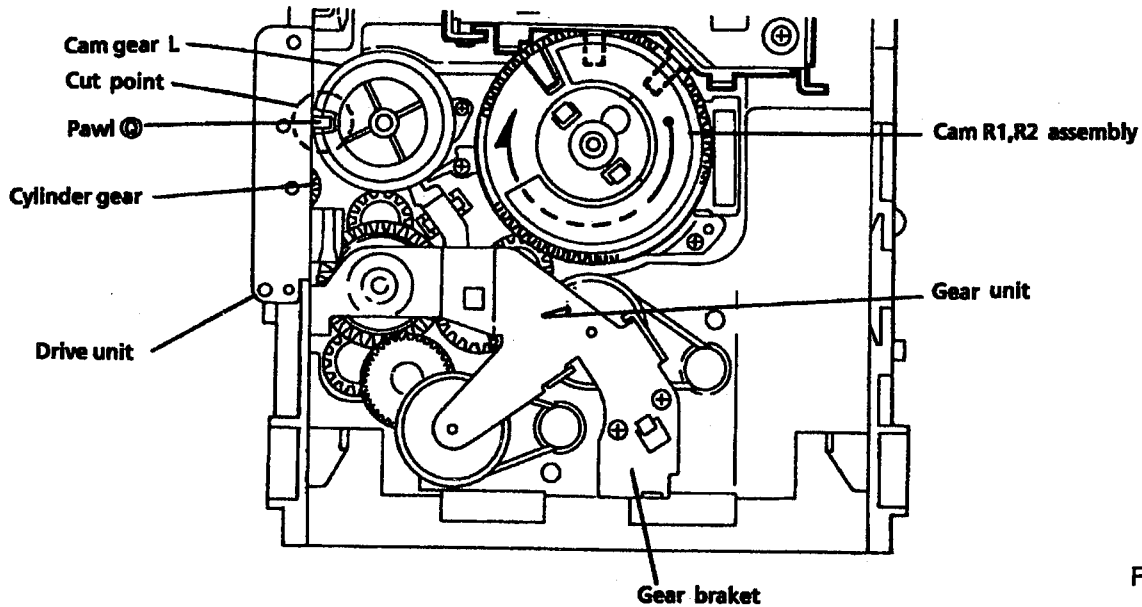

Fig. 42
[NOTE] Set the drive unit's pawl ⑤ so that it is positioned as shown in Fig. 42.